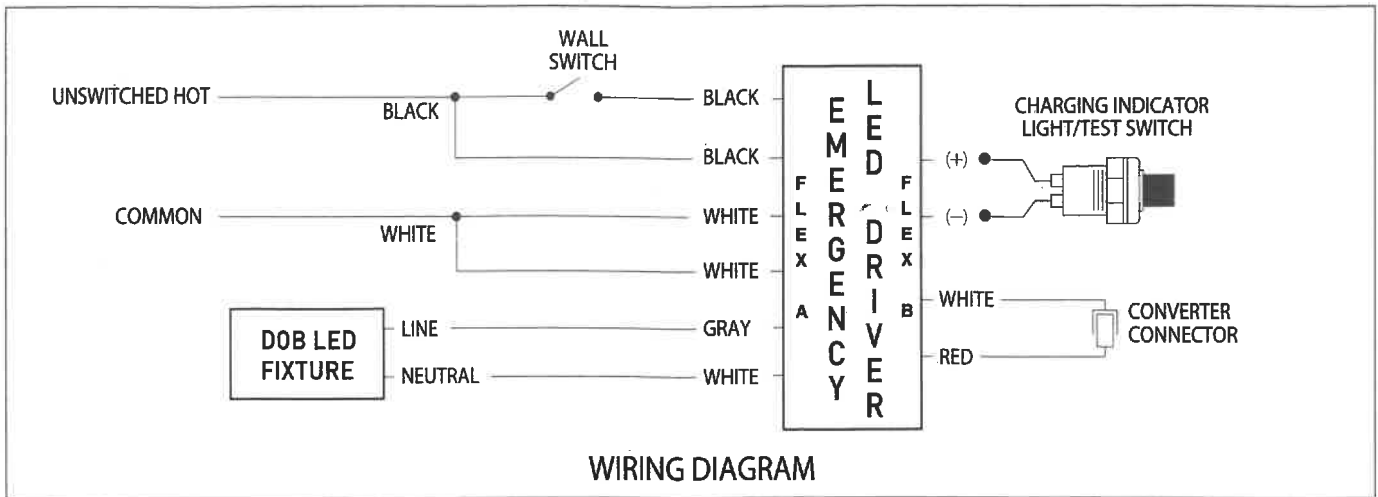

FIG. 1
MOUNTING THE FIXTURE (Fig. 1)
1. Attach the emergency backup unit to the outlet box by fastening supplied 1½" mounting screws through emergency backup box keyholes. (Fig.1)